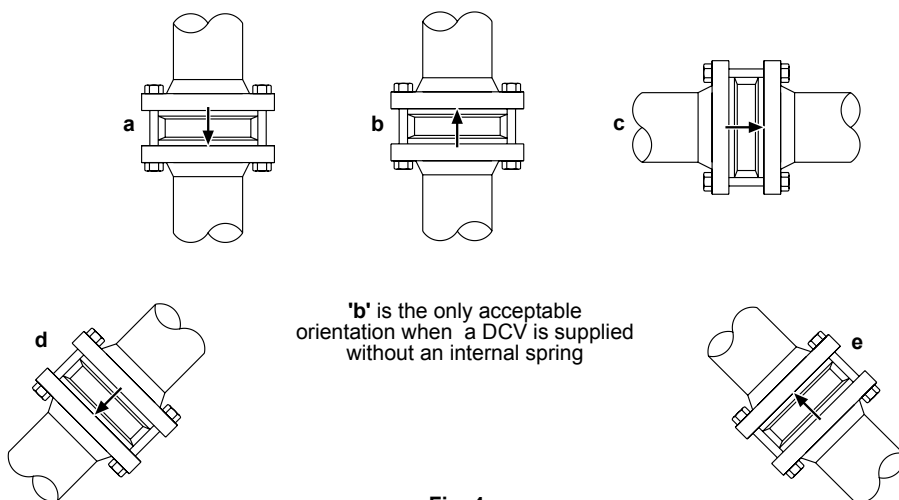

Fig. 4
3.5 Disc check valves simply fit between two pipe flanges (see Figure 4). Standard gaskets are used either side of the valve together with longer bolts or studs. **Note:** flanges, bolts (or studs), nuts and joint gaskets to be provided by the installer. Normal sensible flange bolting practice should be followed e.g. torque tightening the bolts in opposite sequence.